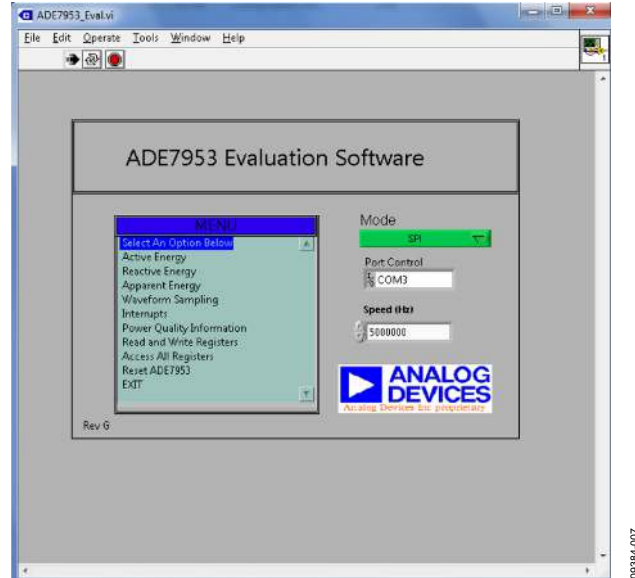
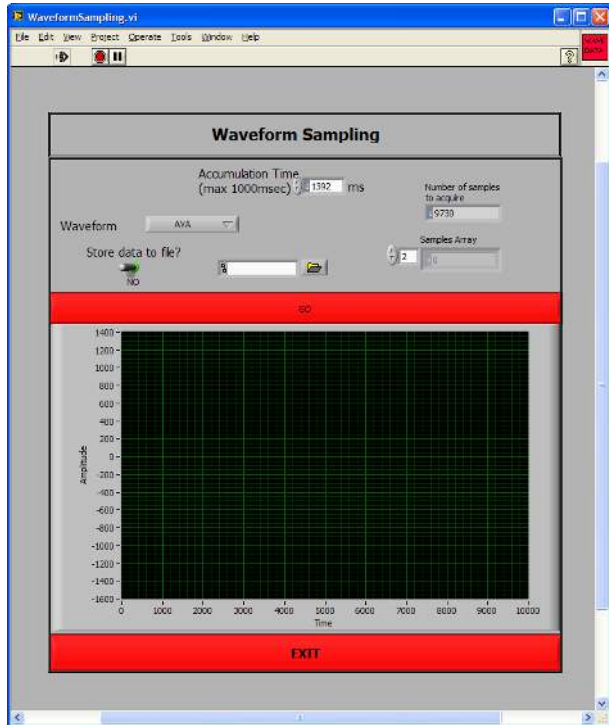

Figure 7. Main Window
Figure 14. Waveform Sampling Window
When the evaluation software is running, it should automatically detect the COM port that the `ADE7953` interface board is connected to. If the port detection is successful, the COM port number appears in the **Port Control** field, as shown in Figure 7 (COM3 in this example).
1. Click **Yes** to return to the main window (see Figure 7).
The **ADE7953** evaluation software allows access to all registers and features of the **ADE7953** using SPI, I²C, or UART communication. The communication mode and speed should be set in the main window (see Figure 7). The menu options available are
These options provide access to all internal registers and allow the evaluation of **ADE7953** performance. To access these functions, click the desired option in the **MENU** box (see Figure 7).
The **Waveform Sampling** window is available from the **MENU** box. The **Waveform Sampling** window is shown in Figure 14. To use the **Waveform Sampling** window, SPI must be selected as the communication interface (see Figure 7).